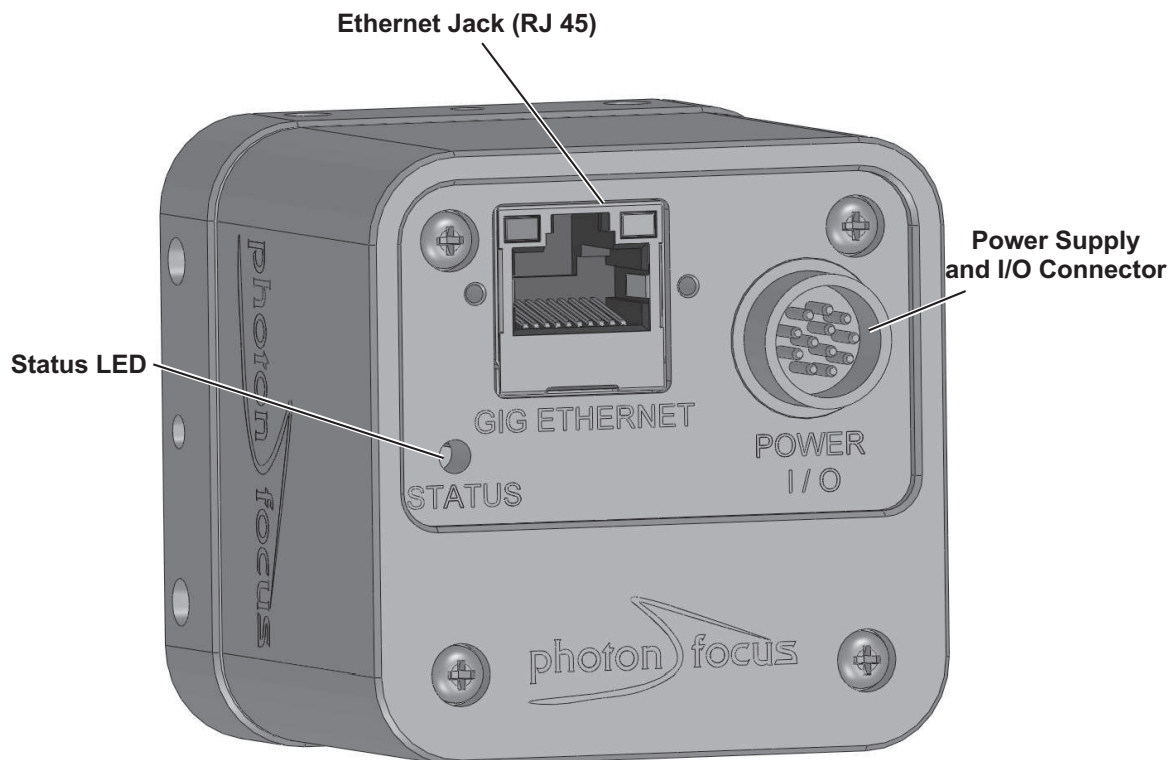

Figure 3.1: Rear view of the Photonfocus 2048 GigE camera series with power supply and I/O connector, Ethernet jack (RJ45) and status LED
4. Connect the power supply to the camera (see Fig. 3.1).